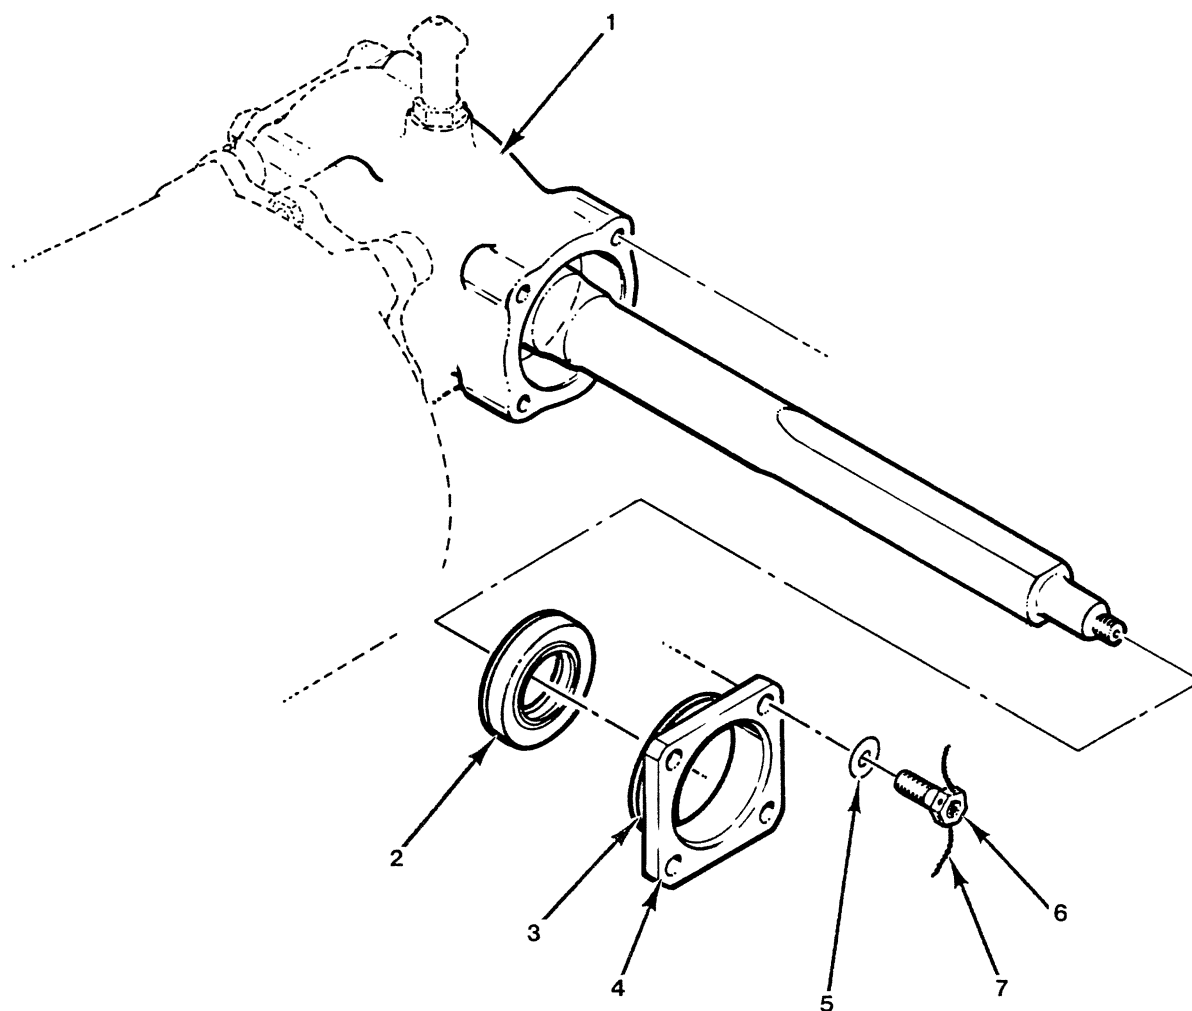

FIGURE 7-13 TAIL ROTOR GEARBOX OUTPUT SHAFT SEAL REPLACEMENT
7.440 Tail Rotor Gearbox Output Shaft Seal Replacement (ref Figure 7-13)